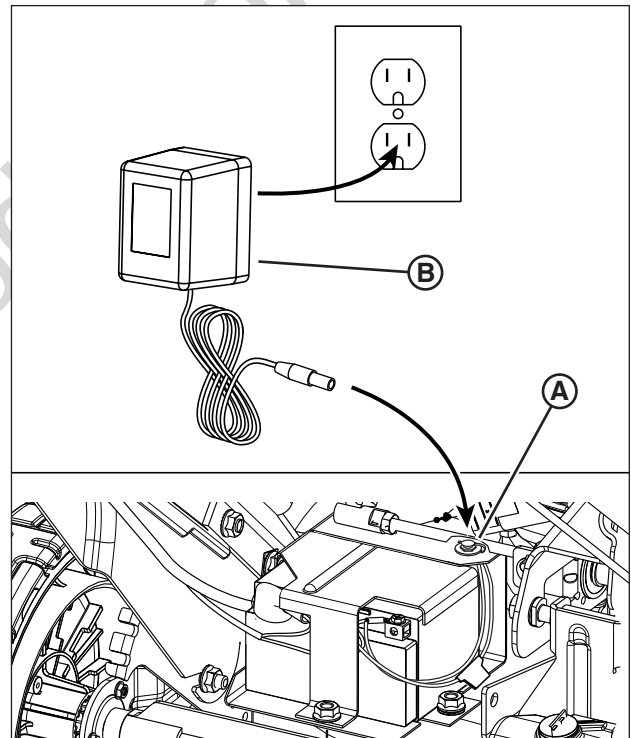

Figure 13: Charging the battery
1. Remove the dust cap from the charger jack (A, **Figure 13**).
2. Plug the battery charger (B) into the charger jack.